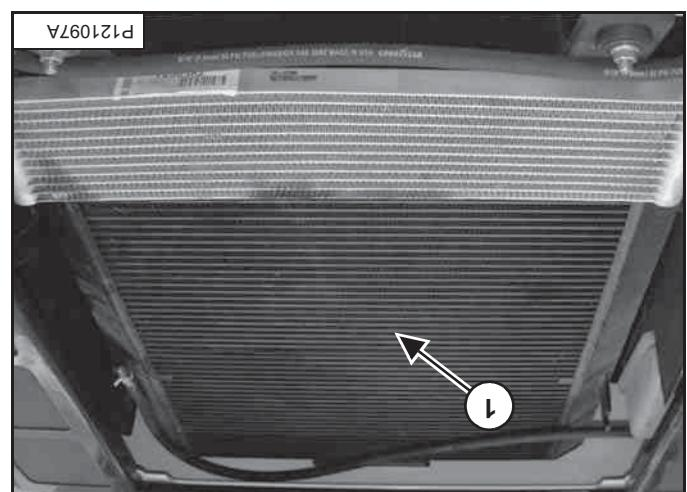

Figure 46
Use low air pressure or water pressure to clean the top of the oil cooler (item 1) [Figure 46].